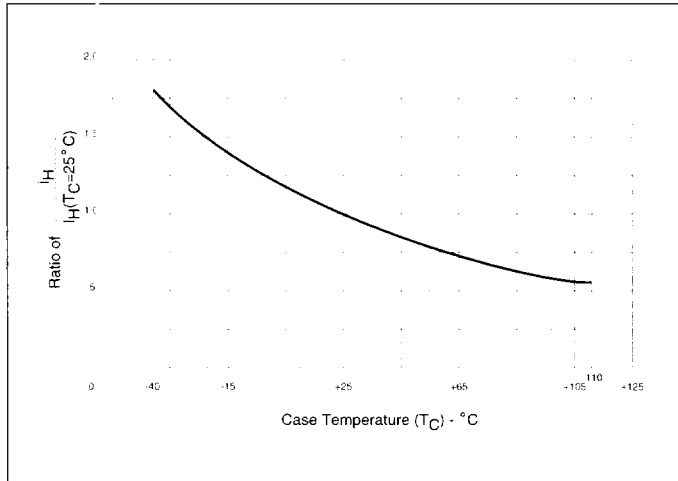

Figure 9.2 Normalized DC Holding Current vs Case/Lead Temperature
- (3) See Figure 9.2 for I_H vs case temperature.